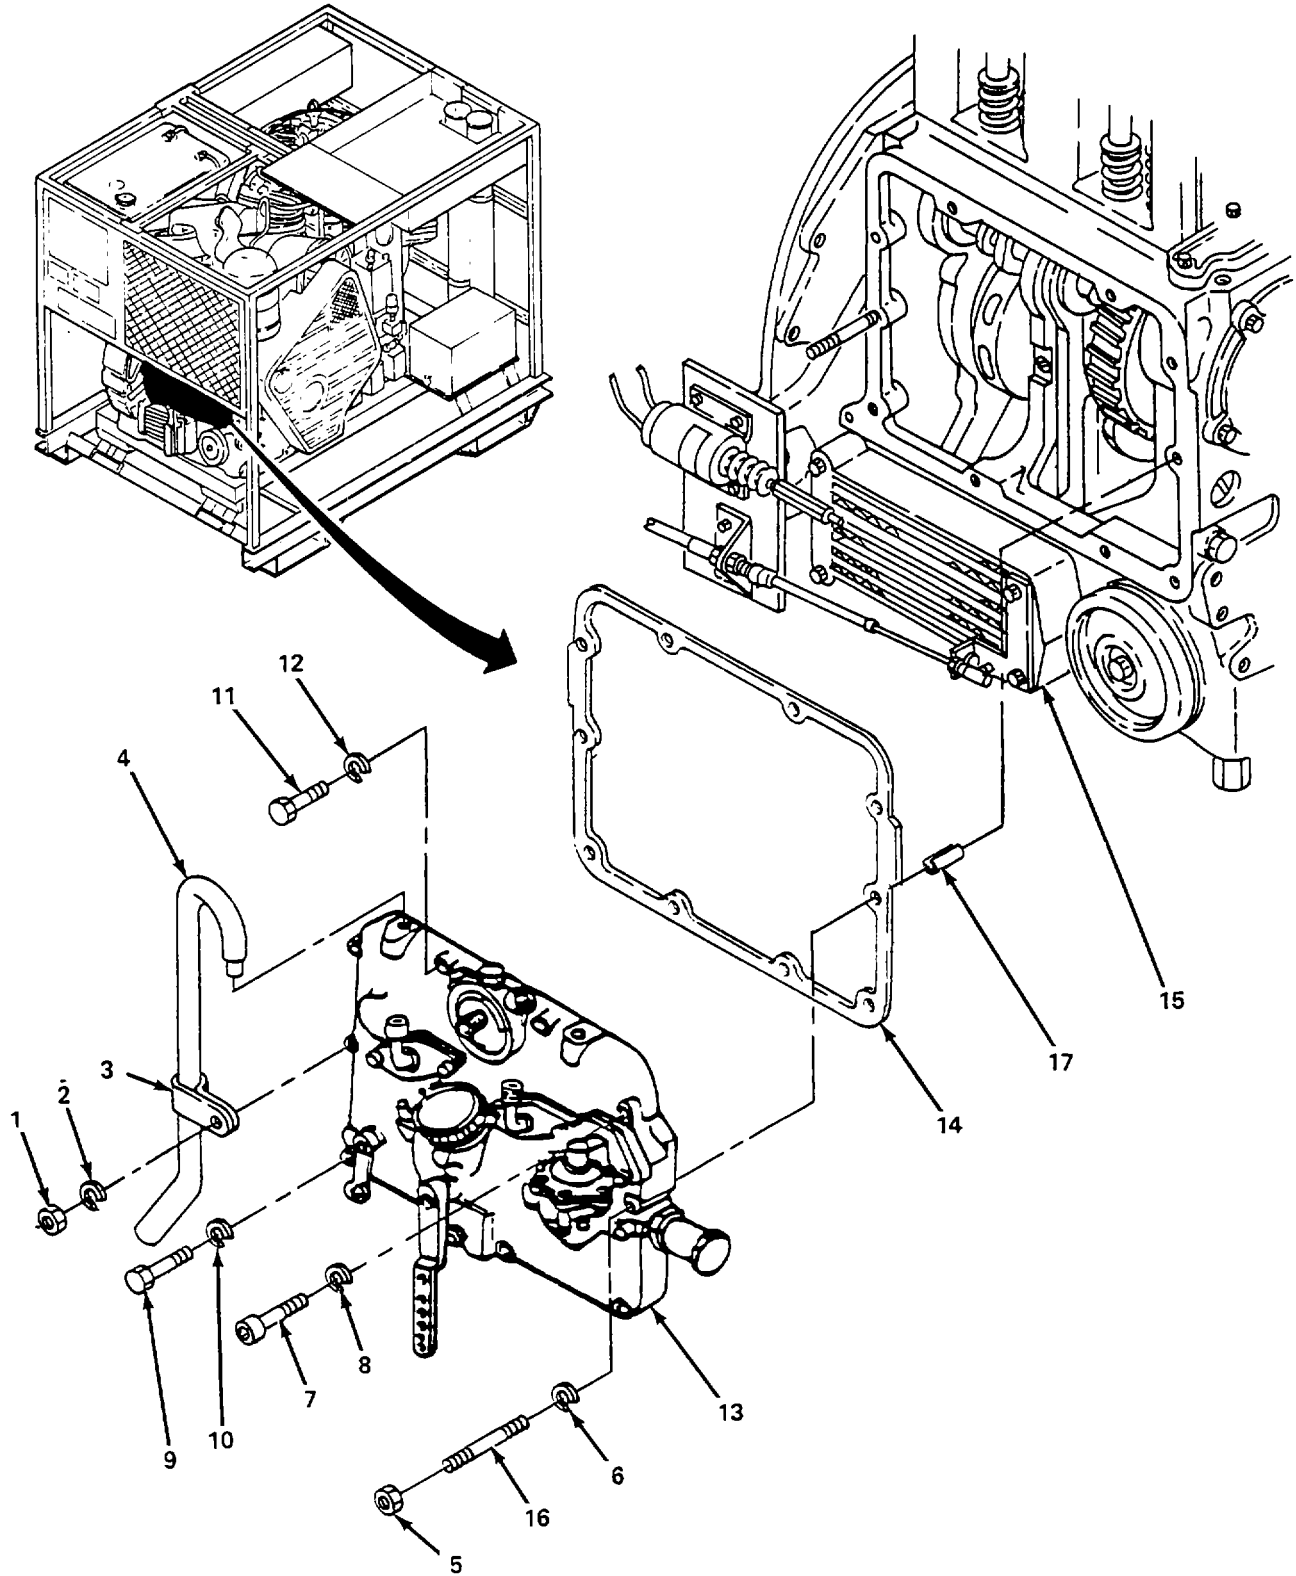

Figure 5-45. Fuel Injection Pump, Replace.
- (33) The pointer (4) on crankshaft should be pointing to fuel break point on magnetic scale (6).
- (34) Tighten two screws (12) securing the camshaft gearwheel (11).
- (35) Check again the point of delivery and if necessary, correct.
- (36) Turn off high pressure tester.
- (37) Remove high pressure tester line from threaded sleeve for fuel filter.
- (38) Install fuel filter (para. 4-33).
- (39) Remove overflow pipe with funnel from the injector pump.
- (40) Install injector line between injector pump and cylinder 1 (para. 4-34).
- (41) Remove pointer (4) from dowel sleeve (5).
- (42) Remove graduated scale (6) from crankshaft.
b. Replace. (figure 5-45)
- (1) Remove fuel filter (para. 4-33).
- (2) Remove injector lines (para. 4-34).
- (3) Remove nut (1) and lockwashers (2) and remove clamp (3).
- (4) Remove breather line (4).
- (5) Remove two nuts (5) and lockwashers (6).
- (6) Remove allen head screw (7) and lockwasher (8).